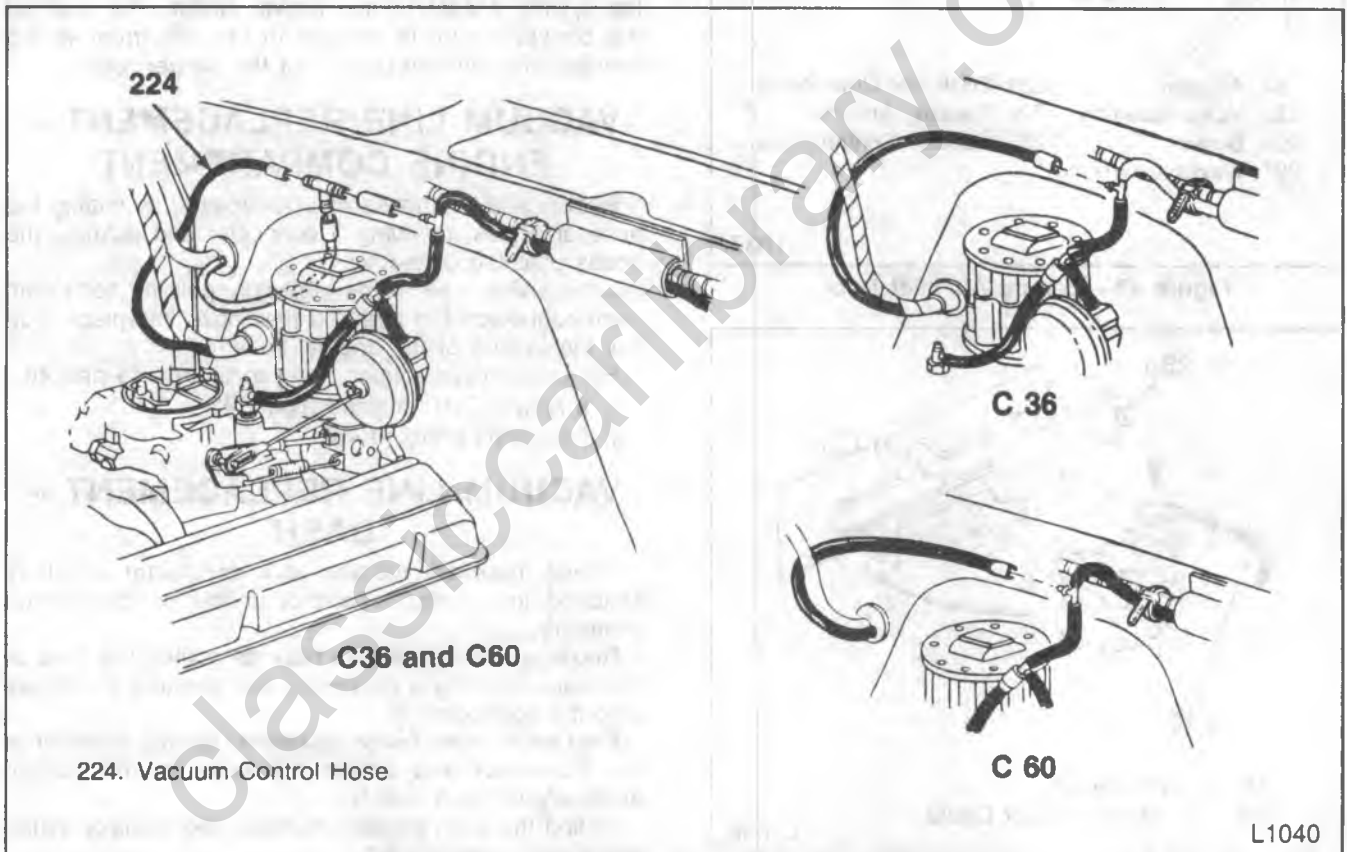

Figure 45—Vacuum Hose—5.7L and 7.4L Engine
↔ Remove or Disconnect (Figures 45 and 46)
→ Install or Connect (Figures 45 and 46)
For vacuum line routing, refer to figures 45 and 46.
1. 5.7L and 7.4L engines (figure 45).